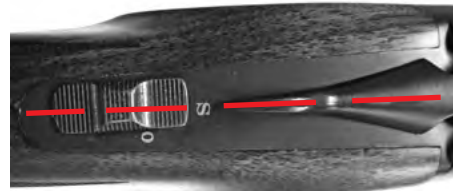

FIGURE 4
6. When the action is closed and locked, the TOP LEVER will return to its former position (FIGURE 4) pointing to the rear.